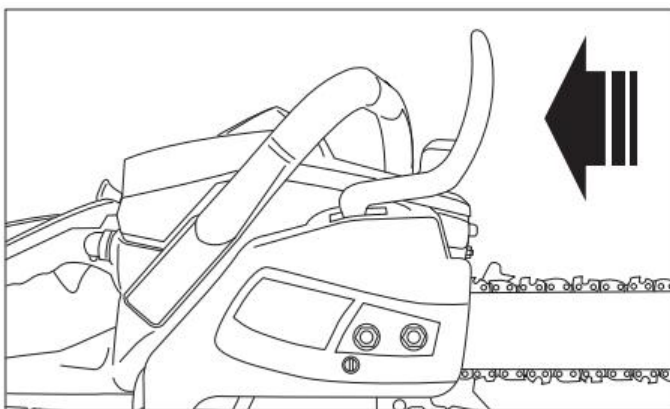

Fig. 3
2. Move the chain brake shield to the operating position by pulling the lever toward you. Make sure the chain rotates around the bar (fig. 3).